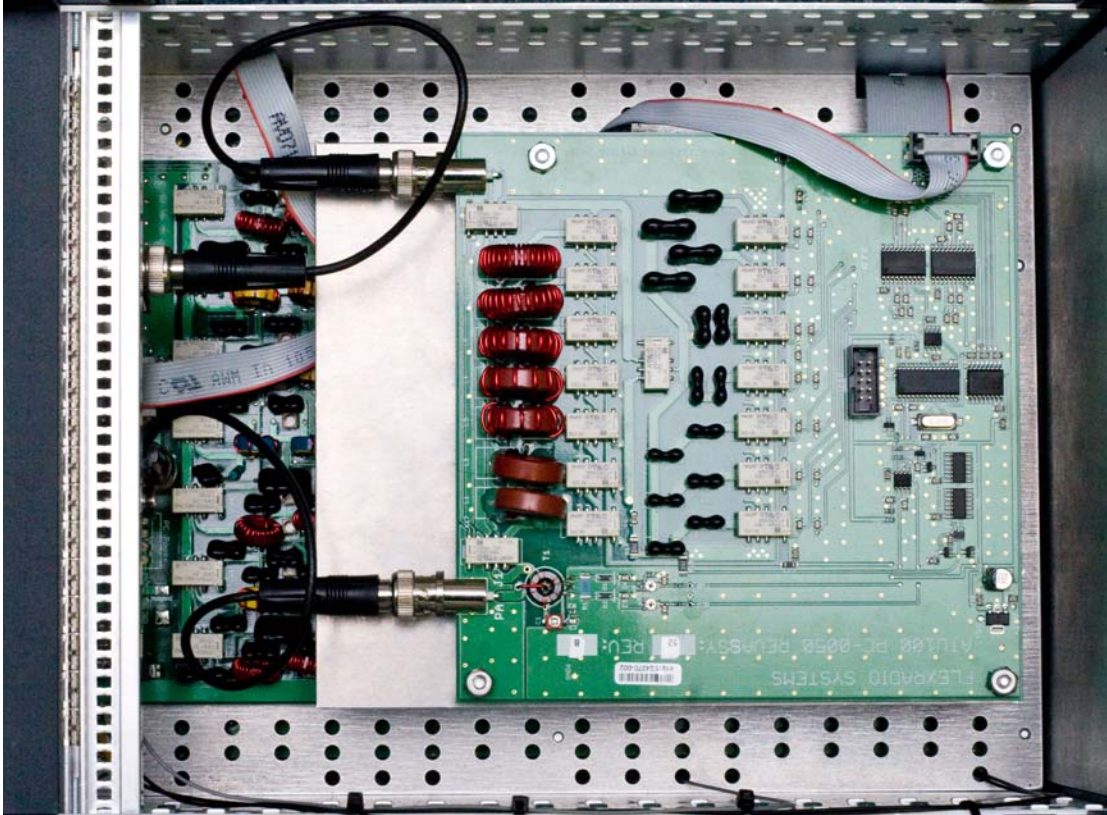

Figure 5 - Placement of ATU onto spacers above shield
Step 11. Carefully position the ATU over the 1/4" (6.35 mm) spacers with the BNC connectors facing the rear of the FLEX-5000. (See Figure 5) Record the serial number on the ATU board. It has the format of xxx-xxxx. This will be needed later on in the installation procedure.
Step 13. Connect the other end of the ATU control ribbon cable to connector labeled "P1" on the side of the ATU board located towards the front of the FLEX-5000. The red strip (pin 1) on the cable is oriented towards the front of the FLEX-5000. **Do NOT connect the ATU control cable to the ICSP connector in the middle of the ATU board.** (See Figure 5)